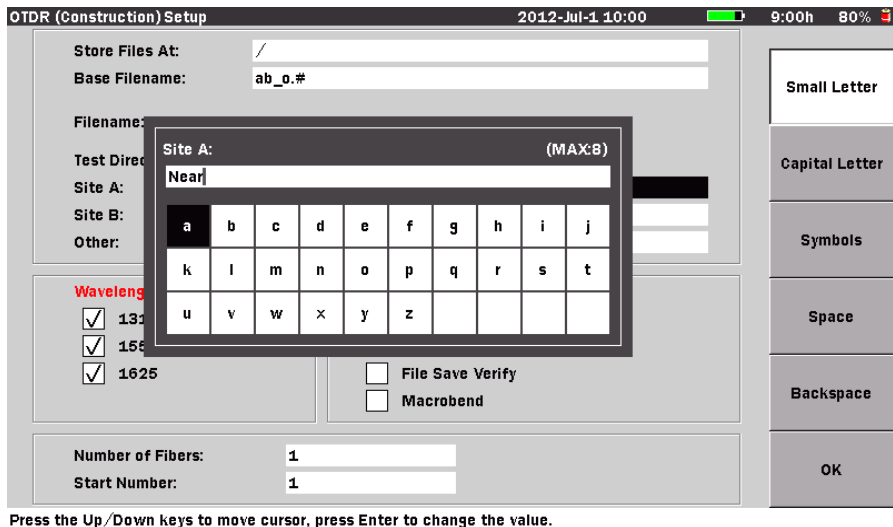

Figure 6-9: OTDR (Construction) Setup – Text Entry dialog box
1. Use the **Up** and **Down Arrow keys** (or the **Rotary knob**) to highlight the desired field (**Site A**, **Site B**, or **Other**) and then press the **Enter key**. The Text Entry dialog box appears (see Figure 6-9, below). If no USB keyboard is connected, follow the instructions from step 2. to enter the name using the front panel keys.